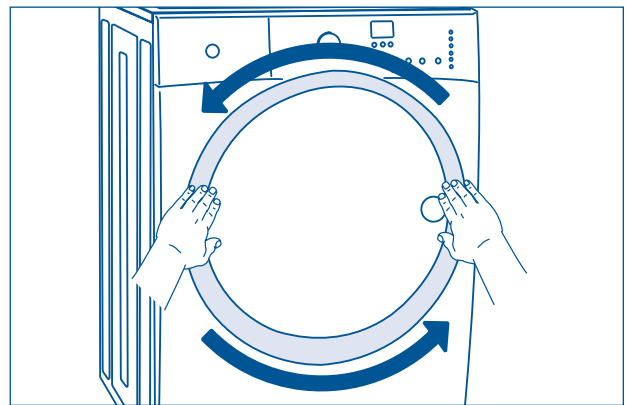

Figure 2-18.
4. Rotate the door trim approximately $\frac{3}{4}$ " counter-clockwise and pull it away from the front of the door. (See Figure 2-18)